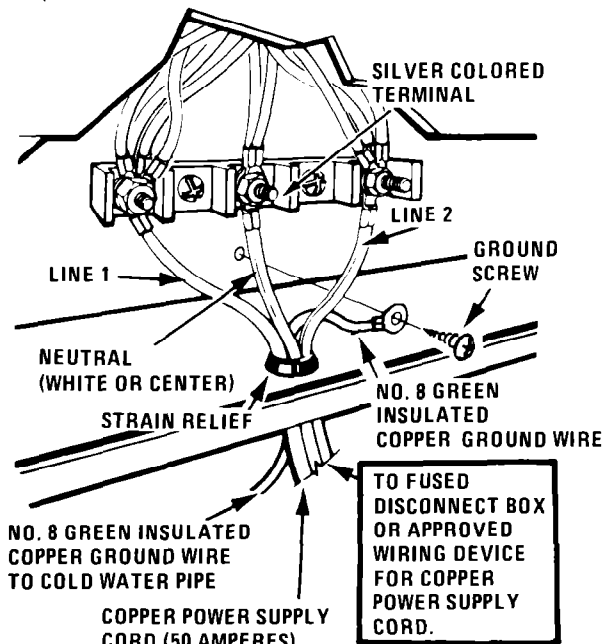
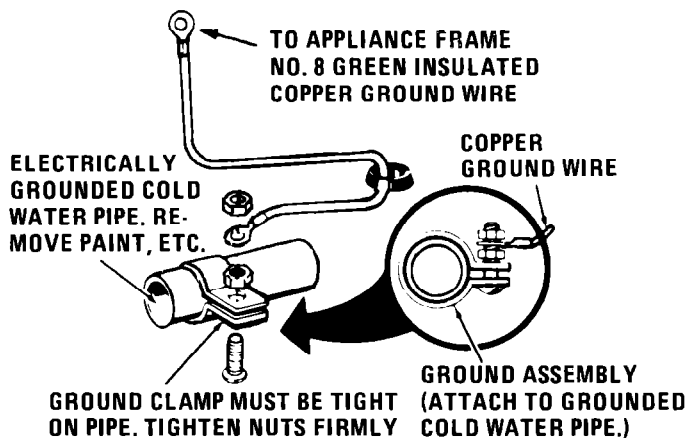

FIGURE 5
FIGURE 6
- Connect the neutral wire of the copper power supply cord to the center silver colored terminal of the terminal block and connect the other wires to the outer terminals. See Figure 5. Ring type terminals must be used on the copper power supply cord wires.
- Connect a separate insulated green colored copper ground wire (No. 8 minimum) to a grounded cold water pipe* by means of a clamp, and then to the frame of the appliance with the ground screw, using the hole in the frame where the ground strap was removed. See Figure 5. Do not ground to a gas supply pipe. Do not connect the copper power supply cord to electric power until appliance is permanently grounded. See Figure 6.